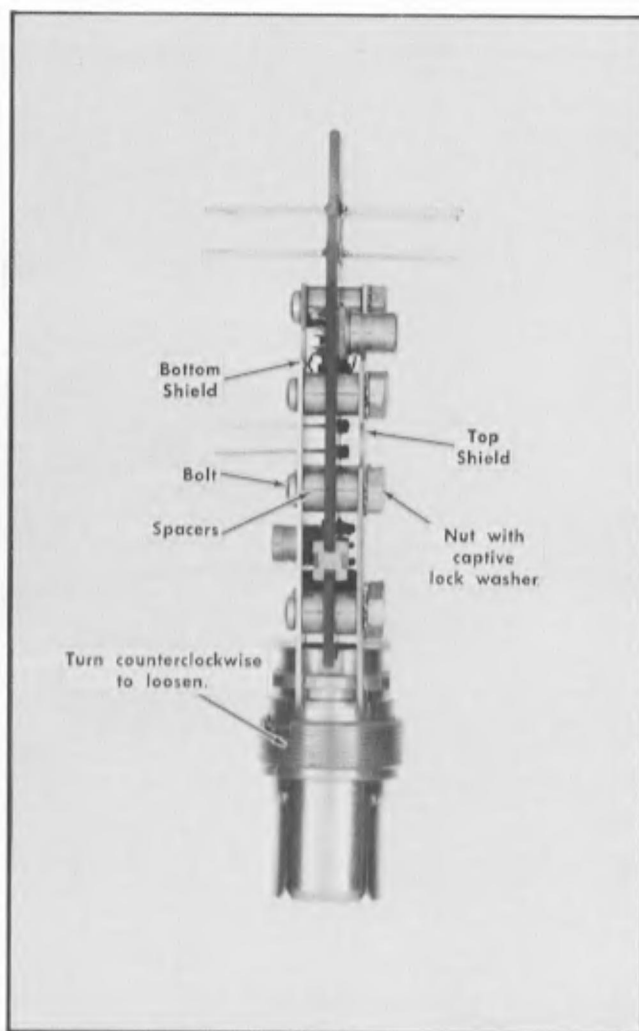

Fig. 4-4. Assembly of Sampler Circuit board.
1. Loosen the threaded nut by turning it counterclockwise with the special Tektronix tool, Part No. 003-0607-00. Do not remove the threaded nut, but back it off just enough to free the notched plate (see Fig. 4-4).